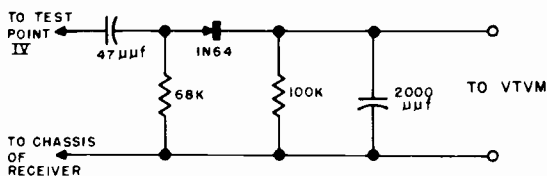

FIG. 6 DETECTOR NETWORK
4. Connect the detector network shown in Figure 6 to Test Point IV and feed its output to an AC VTVM.